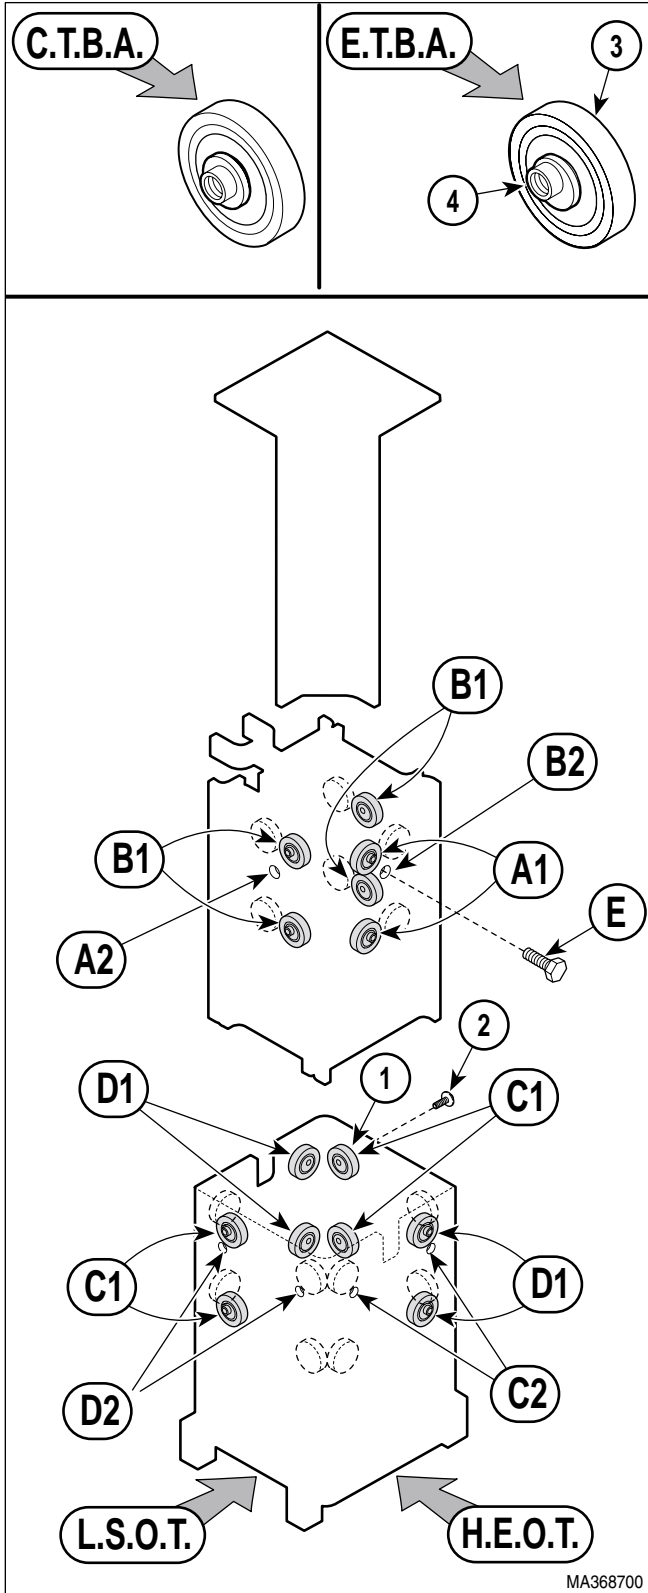

Figure 4-29. Eccentric Bearings Adjustment
- (6) Run BASE UP and BASE DOWN function while observing all eccentric bearings (1, Figure 4-29).